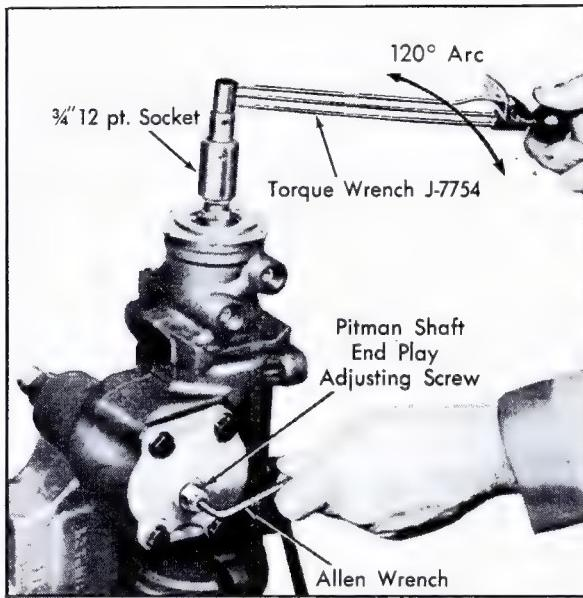

Fig. 9-36 Adjusting Pitman Shaft End Play
- With gear on center, check combined ball and thrust bearing preload with Torque Wrench, J-7754, with a 3/4 inch 12-point socket, and note highest reading, Fig. 9-36.